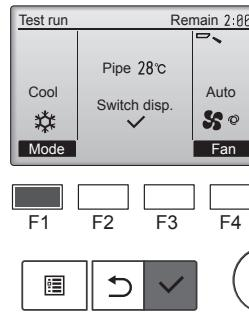

Fig. 7-6
- ① Press the [F1] button to go through the operation modes in the order of “Cool” and “Heat”. (Fig. 7-6)
- ② Press the button and open the Vane setting screen.